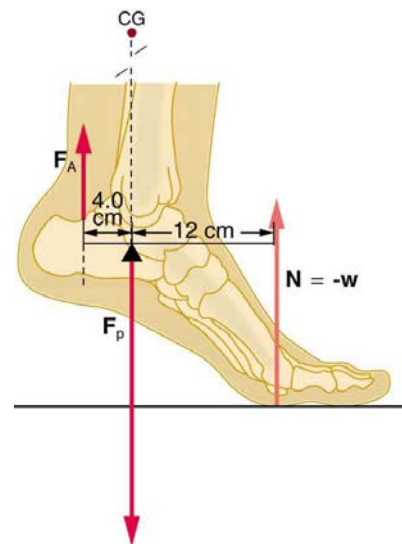

Figure 9.43 The muscles in the back of the leg pull the Achilles tendon when one stands on one's toes. A simplified lever system is shown.
33. A 75-kg man stands on his toes by exerting an upward force through the Achilles tendon, as in **Figure 9.43**. (a) What is the force in the Achilles tendon if he stands on one foot? (b) Calculate the force at the pivot of the simplified lever system shown—that force is representative of forces in the ankle joint.